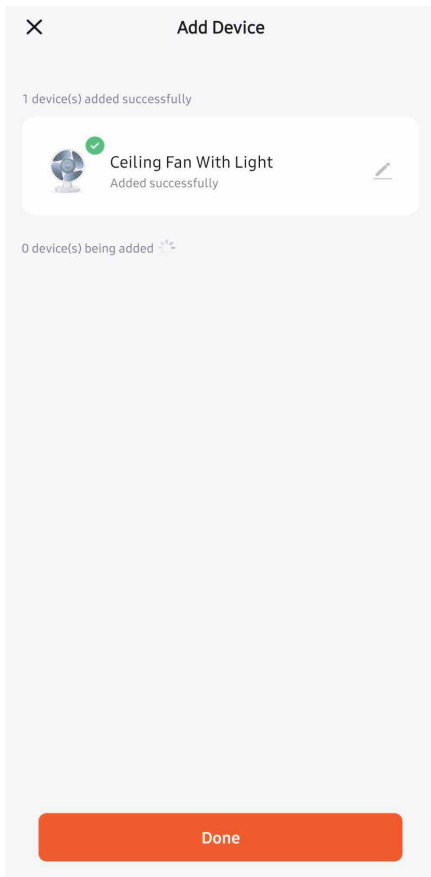

Figure 20
- 10 Once fan has been added successfully, you may select done and now operate the unit from your mobile device. (Fig.20)